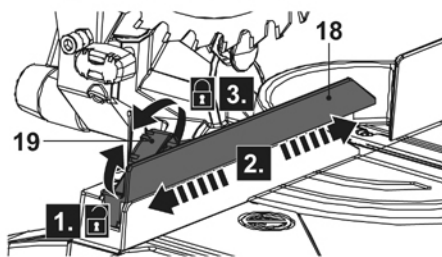

Fig. 9
- > Loosen the fence locking knob (19) in anti-clockwise direction. (Fig. 9, step 1).
- > Slide the fence (18) to required position (step 2). The left adjustable fence (18) can be removed during operation if necessary.
- > Tighten the fence locking knob (19) (step 3).